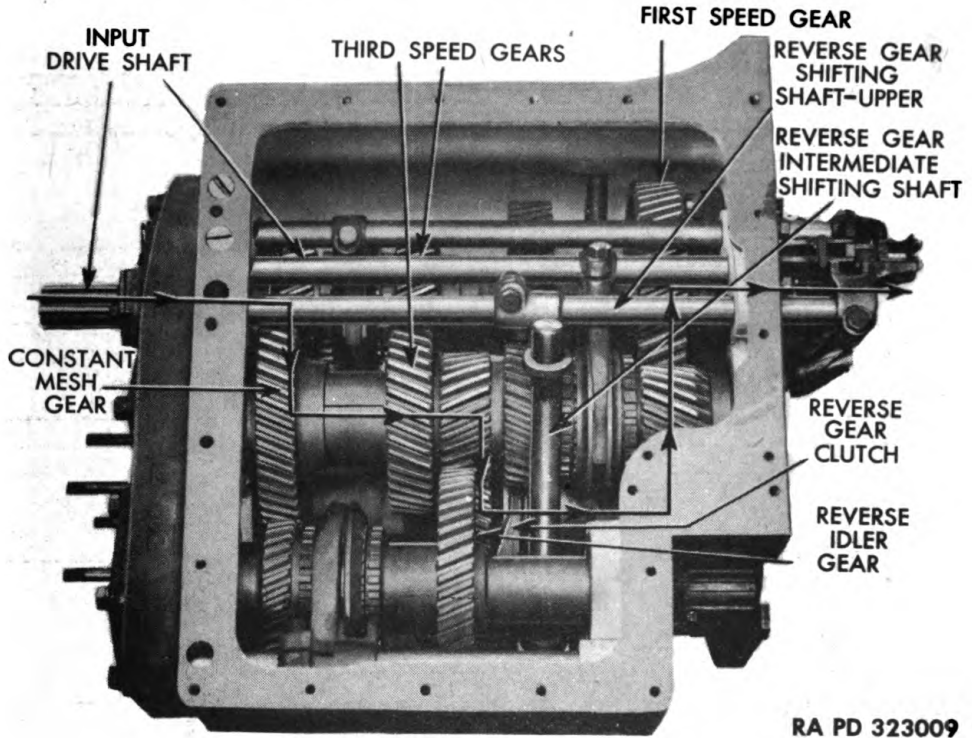

Figure 8 — Transmission in Reverse Gear
(6) **REVERSE** (fig. 8). The reverse gear clutch is engaged with the reverse idler gear. Power enters the input drive shaft, and is transmitted through the constant mesh gear, countershaft, third speed